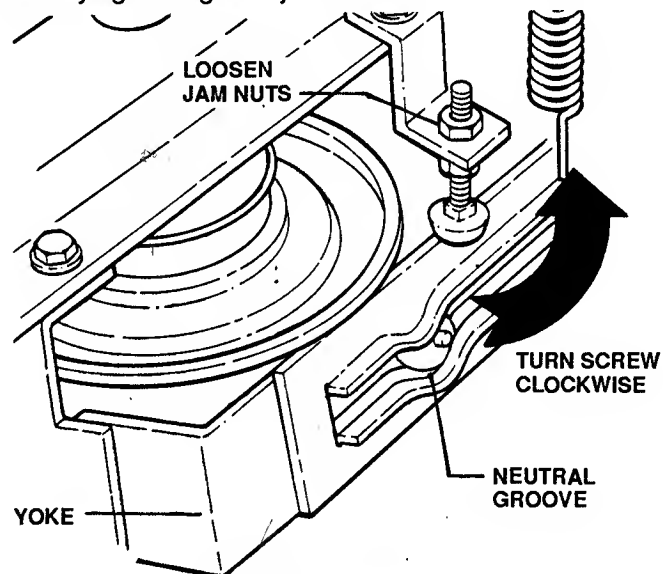

FIGURE 37
If rubber on driven disc ring wears enough to cause loss of traction, readjust the yoke stop (see Figure 37) to restore good contact. With engine "OFF" and drive shifted into "NEUTRAL", loosen the jamnuts and turn the bolt clockwise about two (2) turns. Check to see that rubber ring turns freely in the center or "NEUTRAL" groove - turn bolt in more if needed to achieve this, then secure bolt by tightening both jamnuts.